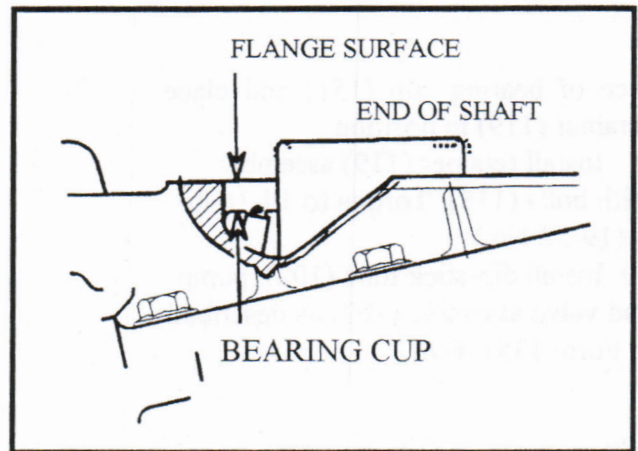
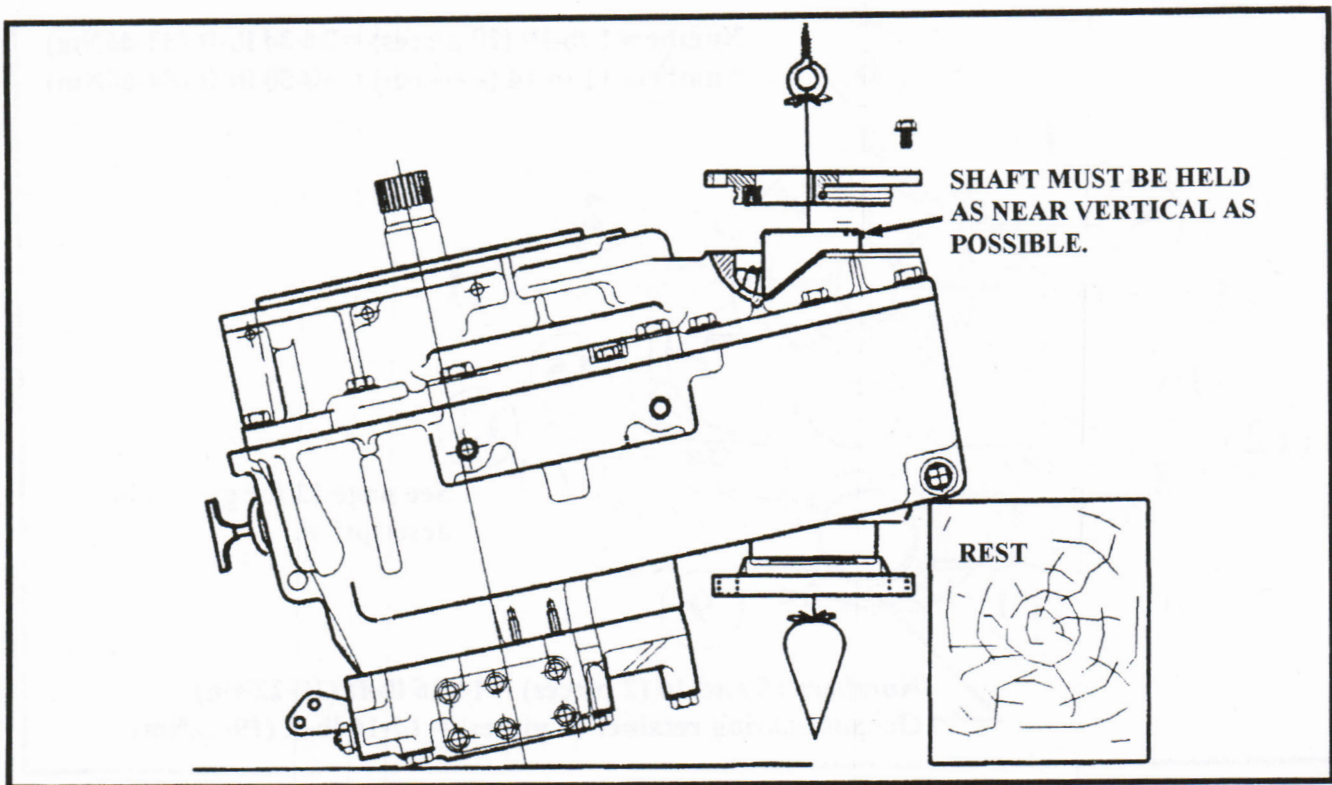

Figure 1-8. Measure to cup.
Figure 1-9. Case positioning for output bearing preload adjustment
1. Arrange the transmission assembly in a position that assures the output shaft is in a vertical position (figure 1-9).
2. Install seal (120) and O-ring (121) in bearing retainer (119).
3. Install the output bearing cup (151) insuring the bearing cup is properly seated.
4. **Measure the distance from the bearing cup (151) to the cover surface and record (figure 1-8).**